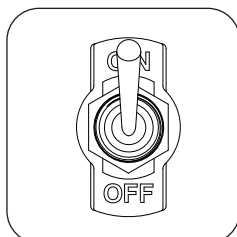

Fig. 25-2 Toggle switch
2. Flip the toggle switch to **ON** to ignite the burner (see Fig. 25-2). The valve will open and the burner will light.
To shut down the main burner (pilot will remain lit), flip the toggle switch to **OFF** (see Fig. 25-2).